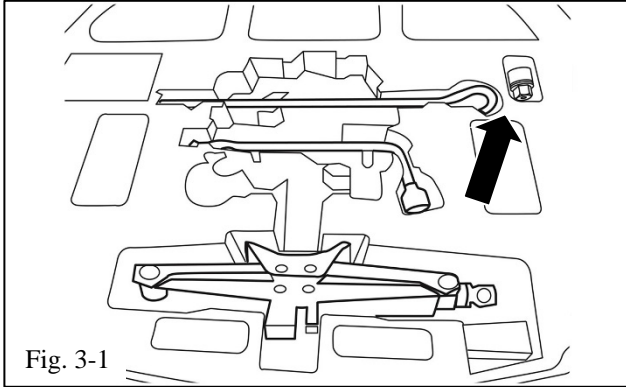

Fig. 3-1
- (a) Place the wheel lock key in the molded tool floor panel (Fig. 3-1).